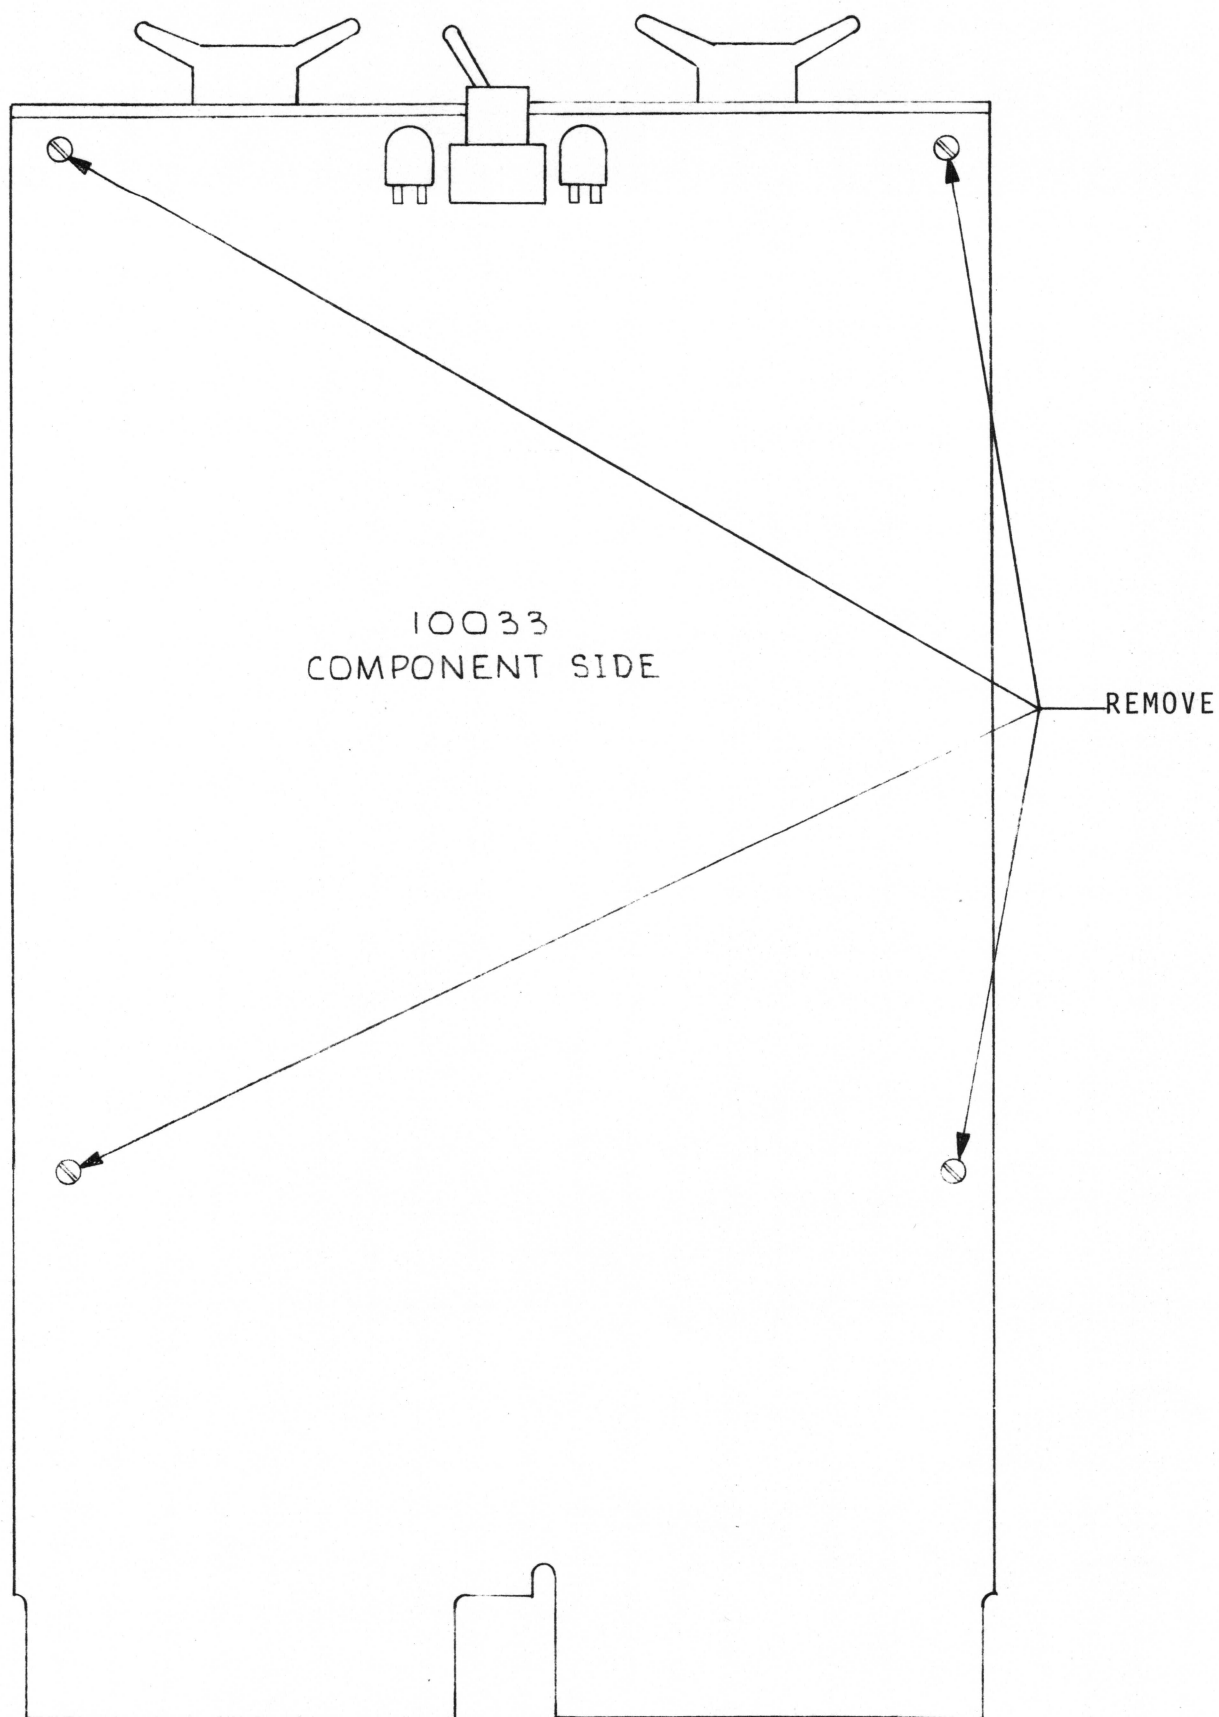

FIGURE 1
1. Remove 4 screws. (See figure 1)